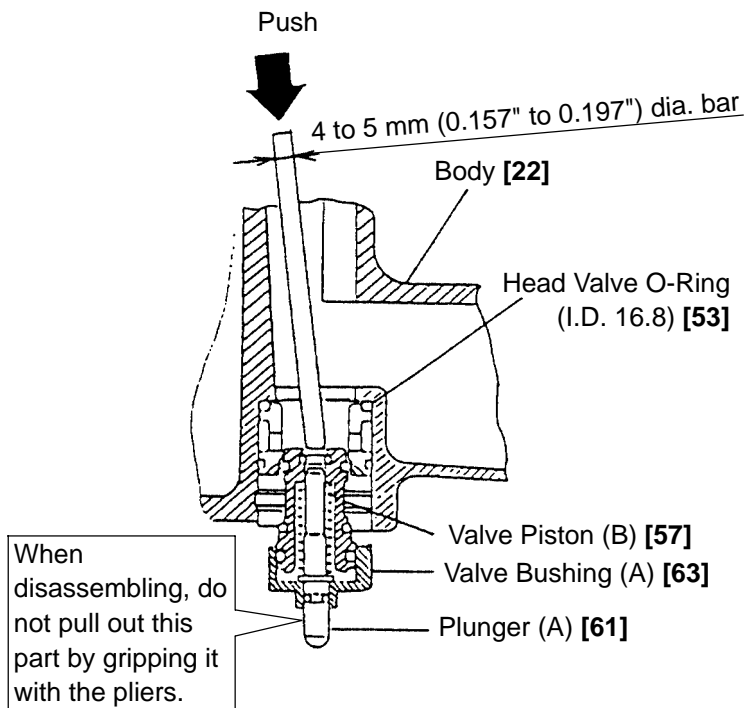

Fig. 16
- 1) Remove the Exhaust Cover [5] by following the procedure in (1), item 10-2.
- 2) As shown in Fig. 16, put in the 4 to 5 mm (0.157" to 0.197") dia. bar from the upper side of the Body [22] and push the top of Valve Piston (B) [57]. Now, the parts forming the control valve can be taken out except Valve Bushing (A) [63] and the Head Valve O-Ring (I.D. 16.8) [53].